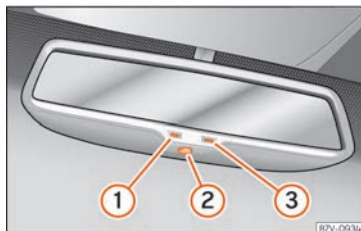

**Fig. 124** Automatic anti-dazzle function for rear vision mirror
Key to Fig. 124:
- ① Control lamp
- ② Control
- ③ Light incidence sensor
This function can be activated and deactivated by pressing the rear-view mirror switch »» Fig. 124 ②. When it is activated, the warning lamp lights up ①.